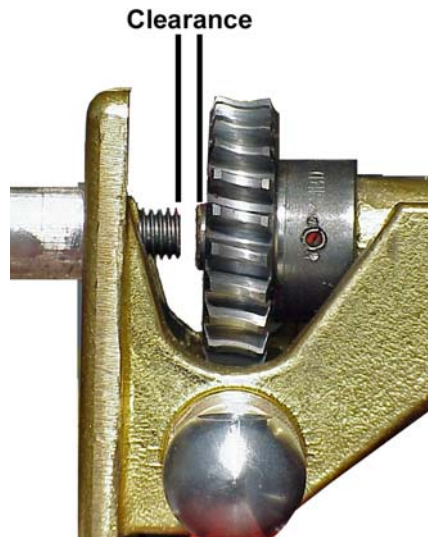

Figure 13: Mounting Bolt
5. Assemble the Inter-Phase Shafts to the worm gear ball end fitting. The Inter-Phase Shaft slides onto the ball end fitting. Align the slot in the shaft with the hole in the ball end fitting. When this is done, place a Spacer ring into the hole; this ring should ride in the groove of the ball end fitting. Bolt this assembly together using the prevailing torque bolt and hardware that is provided (see Figure 13: Mounting Bolt) Tighten the bolt.
NOTE: Make sure that the bolt has a Nylon patch near the bottom end (see Figure 13: Mounting Bolt). This patch provides anti rotational locking and prevents the bolt from becoming loose. If this bolt assembly is removed, a new bolt of similar construction should be used to insure this positive locking action is maintained.